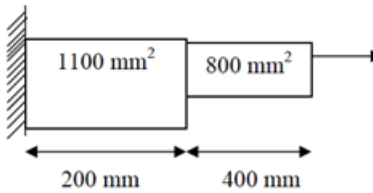

Figure 4
10. Consider the axial vibrations of a steel bar shown in the Figure 4.